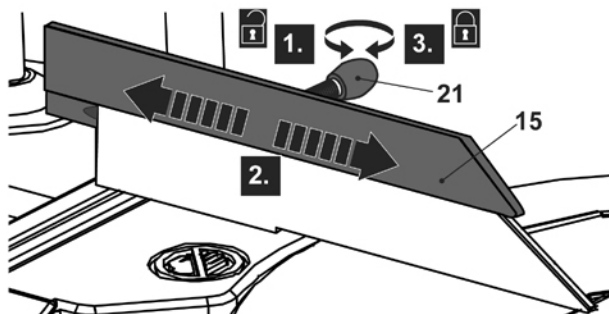

Fig. 8
- > Loosen the fence locking knob (21) in anti-clockwise direction. (Fig. 8, step 1).
- > Slide the fence (15) to required position (step 2). The left adjustable fence (15) can be removed during operation if necessary.
- > Tighten the fence locking knob (21) (step 3).